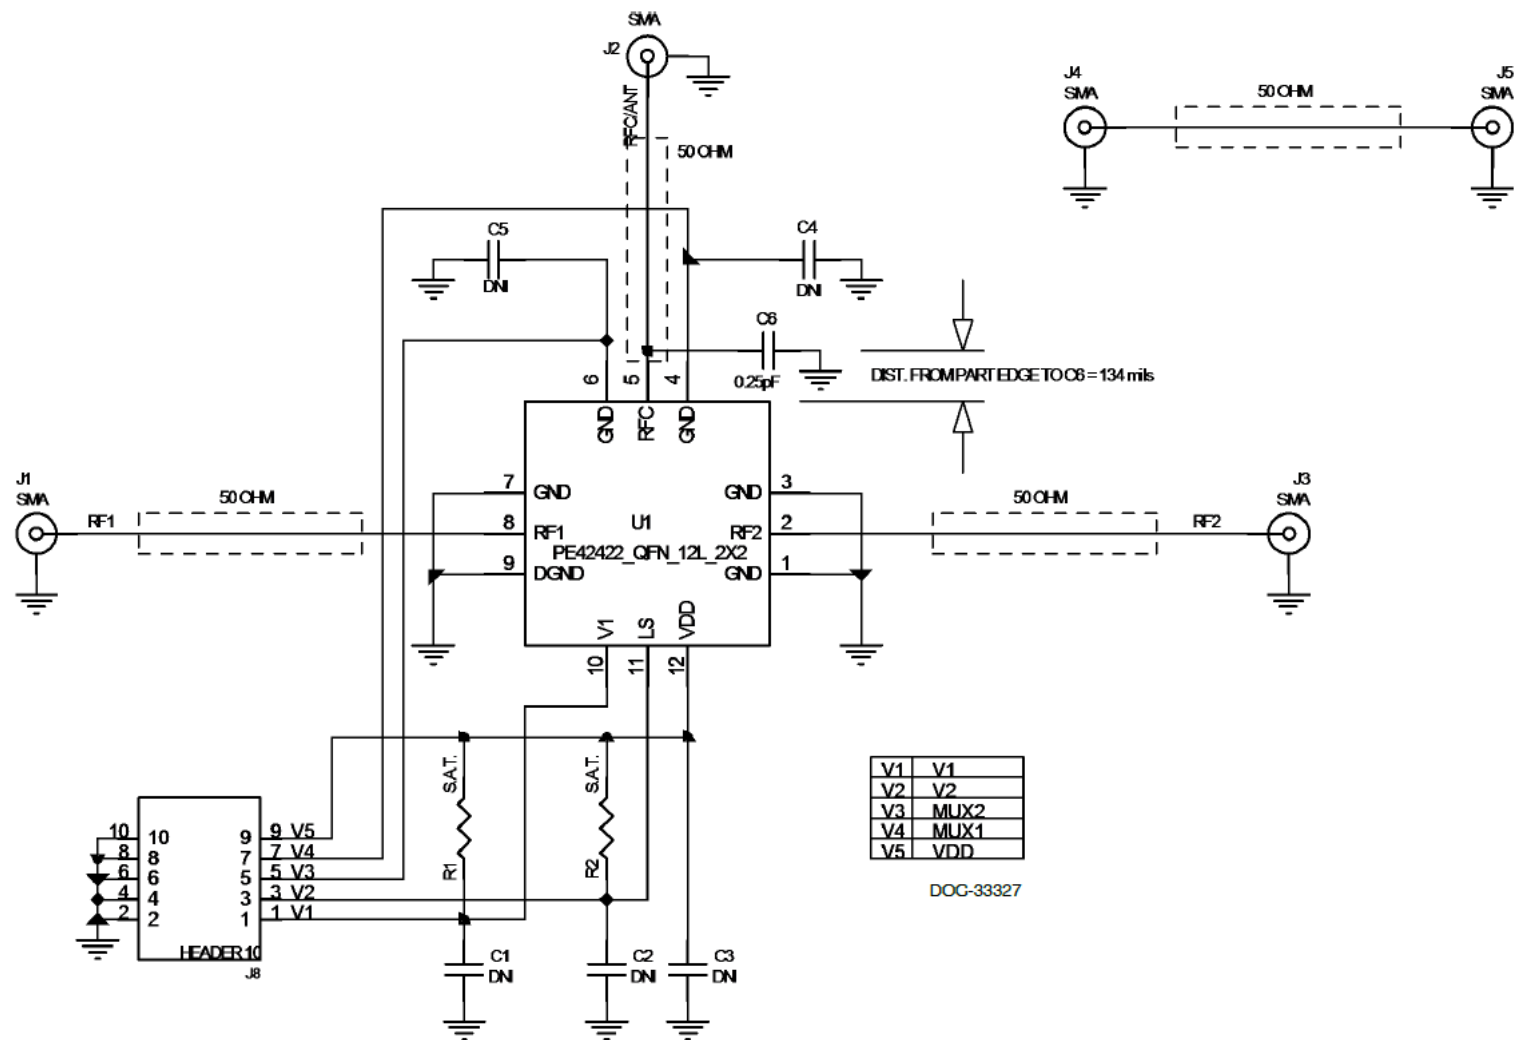

Figure 28. Evaluation board schematic with matching
2. You can improve high frequency performance with external matching. For details, see Figure 20 through Figure 25 and Figure 28.
i * You can improve high frequency performance with external matching. For details, see Figure 20 through Figure 25 and Figure 28.
- You can improve high frequency performance with external matching. For details, see Figure 20 through Figure 25 and Figure 28.
Figure 28 shows the evaluation board schematic with matching.